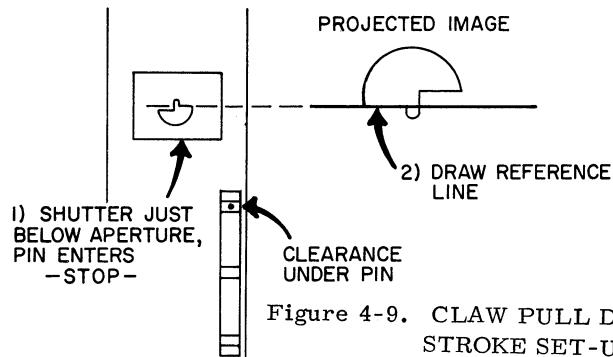

Figure 4-9. CLAW PULL DOWN STROKE SET-UP
- Turn on lamp and project image at least 8" wide (a wide angle lens will help achieve this width at a shorter projection distance), raise elevation approximately 1" (this will get you set up (in case stroke is in need of adjustment), and draw a reference line full width of Target on bottom step. (Figure 4-9).
- h. Manually raise Dowser and project image at least 8" wide (a wide angle lens will help achieve this width at a shorter projection distance), raise elevation approximately 1" (this will get you set up in case stroke is in need of adjustment), and draw a reference line full width of Target on bottom step. (Figure 4-9).